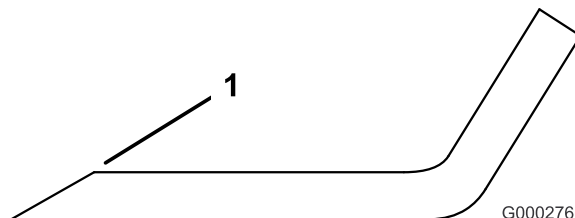

Figure 99
- Use a file to sharpen the cutting edge at both ends of the blade (Figure 99).